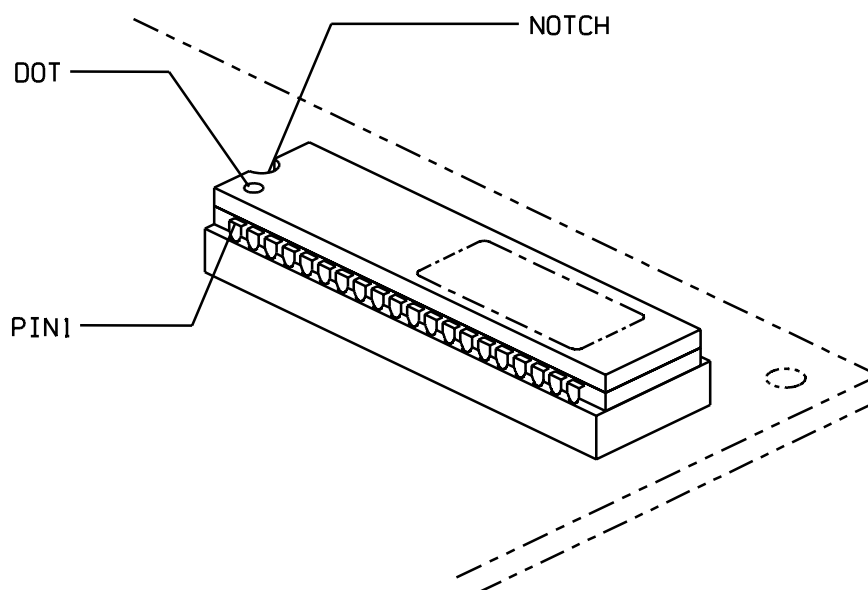

FIGURE 2: EPROM PIN 1 ORIENTATION
1. Verify that with the exception of the version level, the label of the new EPROM is the same as the old EPROM. (Figure 2)
2. Before installing the new EPROM, verify that all pins align with the socket holes in the PCB. Ensure that pin 1 is in the proper position. (Figure 2)